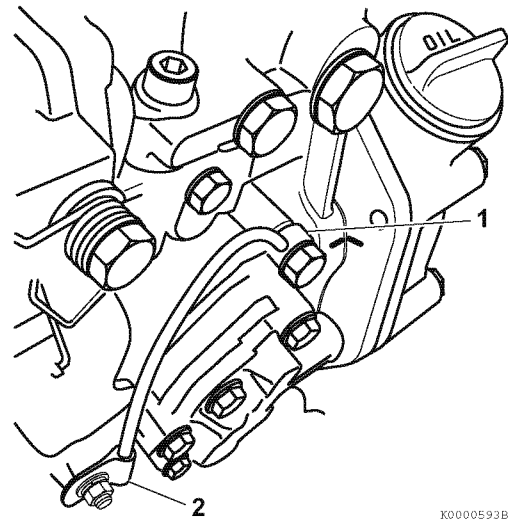

Figure 7-9
- Disconnect the lube oil line (**Figure 7-9, (1)**) and the clamp (**Figure 7-9, (2)**) from the pump.